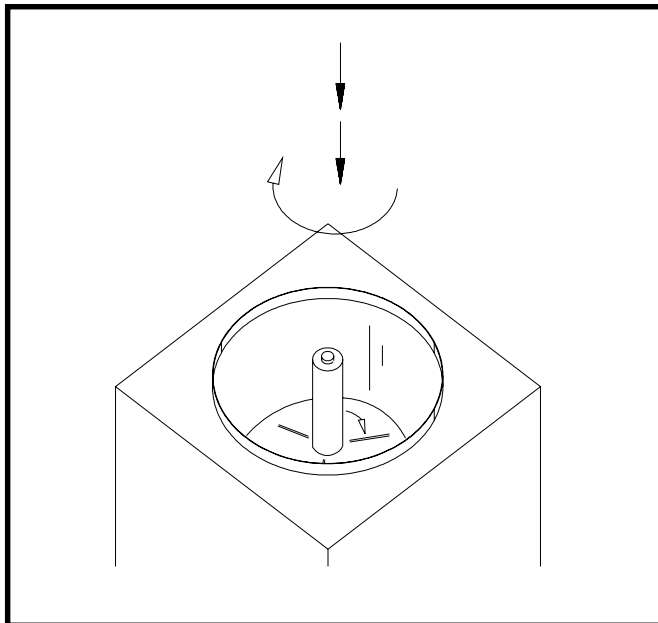

Figure 25
7. Assemble the divider plate and agitator assembly onto the vertical center post, making sure the indicator arrow on the divider plate is in position to line up with the upper spigot. Grasp the agitator tube and slide the assembly down the vertical center post and lock (Fig. 25).